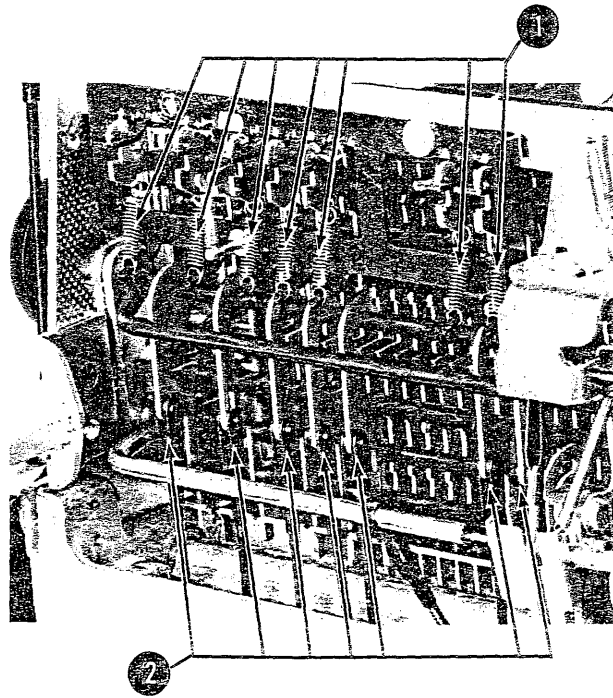

Figure 4-29. Differential-Plate Removal (Steps 3 and 4)
3. Remove all springs from the interposers (No. 1, Figure 4-29).
4. Disconnect the clevises and remove them from the links (No. 2, Figure 4-29).